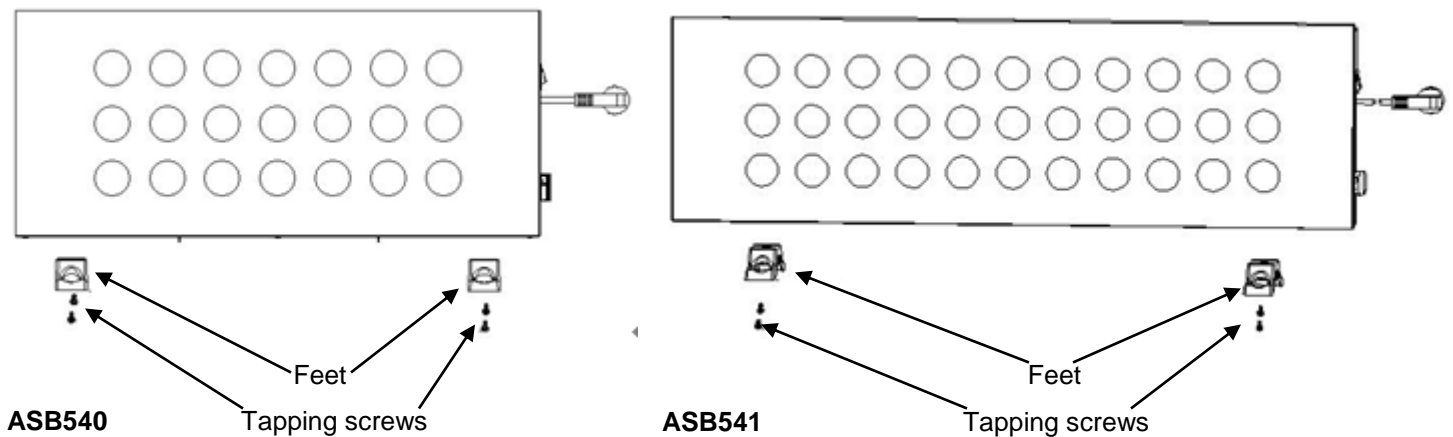

Fig. 1
- Attach to the base of the heater using the 4 tapping screws provided, taking care to ensure that they are located correctly in the bottom ends of the heater. See fig.1